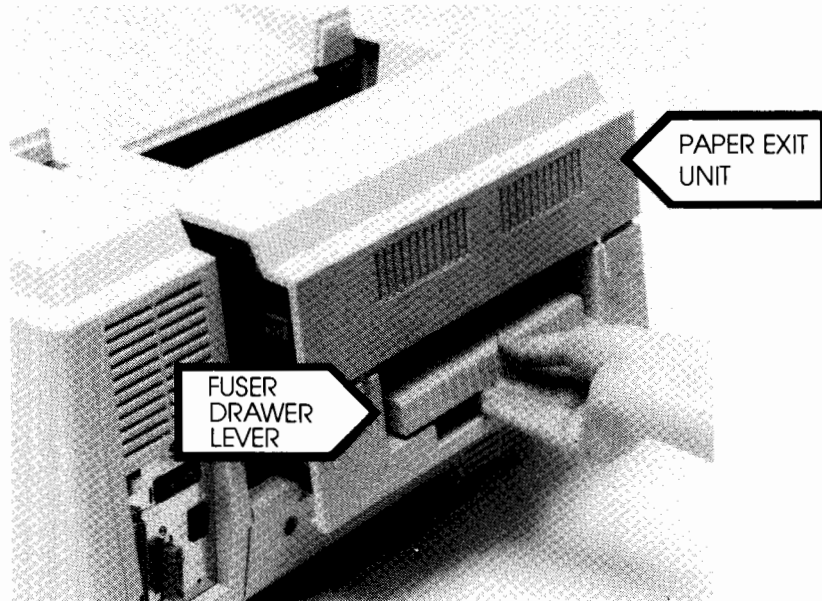

Figure 5-10. Pulling Out Paper Exit Unit
**IF THE INDICATOR AT POINT (B) ILLUMINATES, CHECK THE TRANSPORT PORTION AS FOLLOWS:**
- a. Pull out the paper exit unit horizontally while lifting up the fusing drawer lever (figure 5-10).